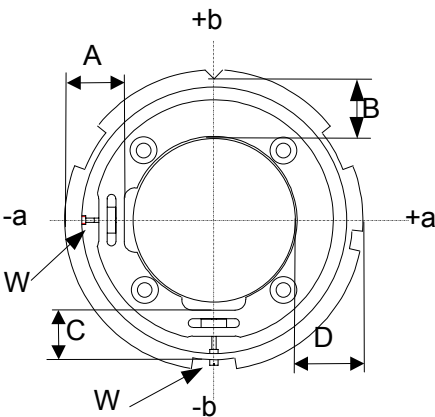

Figure 23: Adjusting the centering
- Measure the distances A, B, C and D (see Figure 23) and enter them as default values in Table 17 below.
3. If not, stop fluoroscopy and loosen the four coupling flange assembly countersunk screws, see Figure 23, page 42, a quarter turn.
4. Rotate the adjusting screws (Items W, Figure 23, page 42) in such a way, that the white circle becomes concentric with respect to the grey outer circle, observed on monitor.